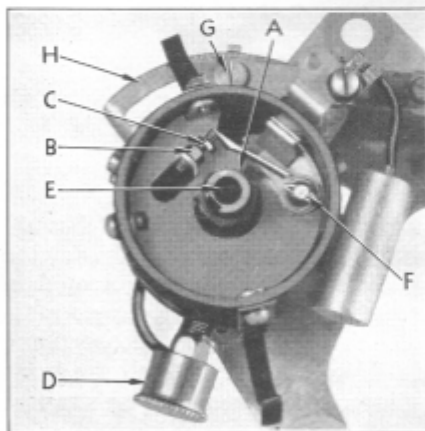

Figure 19
To adjust gap turn engine over until the fibre block (A) of the contact arm, Figures 19 for 6-cylinder models and 20 for 8-cylinder models, is on the highest point of the cam. Points should be clean and smooth and make full contact. Loosen lock nut (B) and turn adjusting screw (C) until the proper gap is obtained. After tightening lock nut, recheck gap.